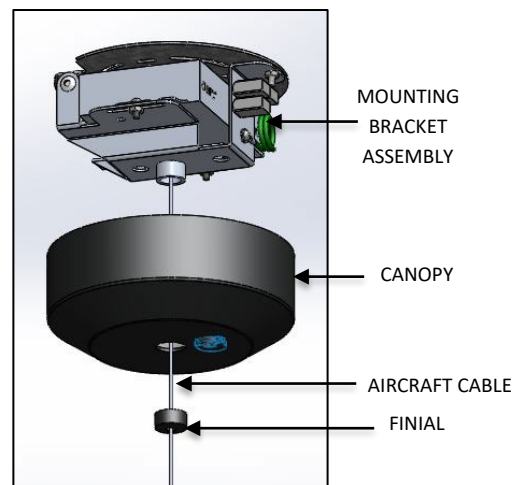

FIG. 5 - MOUNTING KIT CONTENTS
- b. MOUNTING KIT CONTENTS (as shown in FIG. 5)